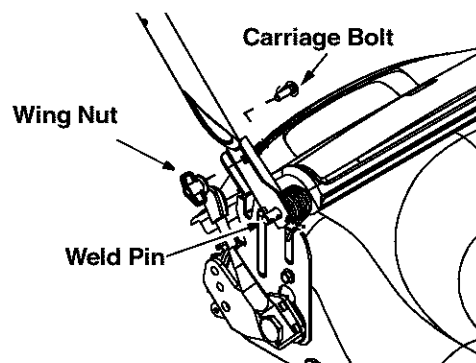

Figure 4
- For shipping purposes, the hairpin clip is placed in the outer hole of the weld pin on the lower handle. Remove the hairpin clip from the outer hole of the weld pin. See Figure 4.
- Using a pair of pliers, insert the hairpin clip into the inner hole on the weld pin. Repeat on other side. See Figure 4 .